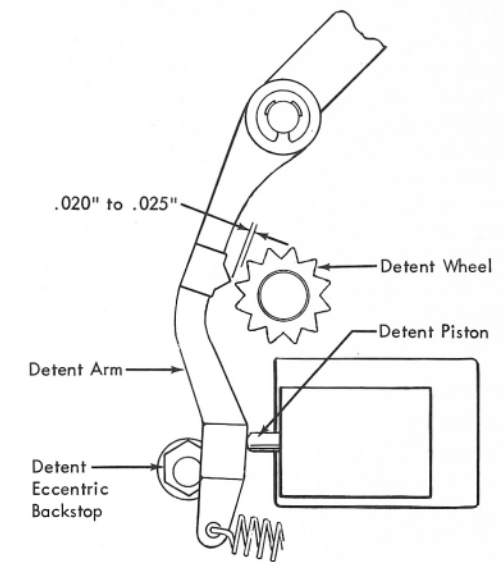

Figure 16. Detent Adjustment
5. Adjust the detent backstop for a clearance of .020" to .025" between the detent arm and the detent wheel when the arm is held against the backstop (Figure 16).